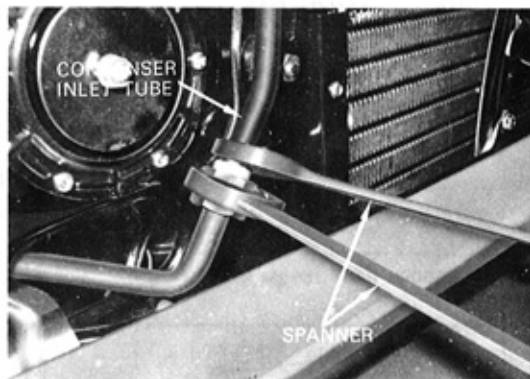

Fig. 43
- A. When tightening and loosening the various fittings, use two spanners or monkey wrenches, to avoid exerting too much pressure on the pipe. Especially, as the inlet and outlet fittings of the condenser and the receiver is made of aluminum, be careful not to damage the screw thread on them. See Fig. 43.